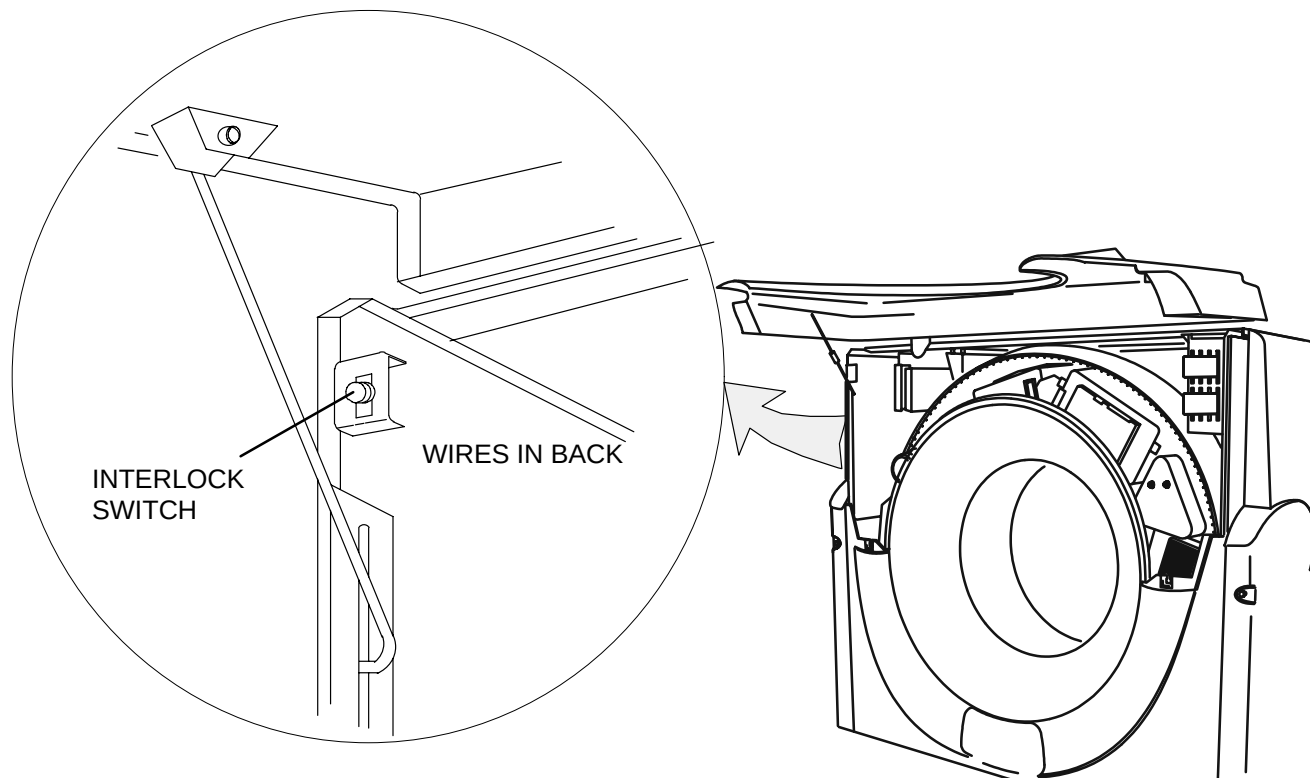

FIGURE 244 Interlock Switch Location
3. Tag and remove the two wires connected to the Interlock Switch. See Figure 244.